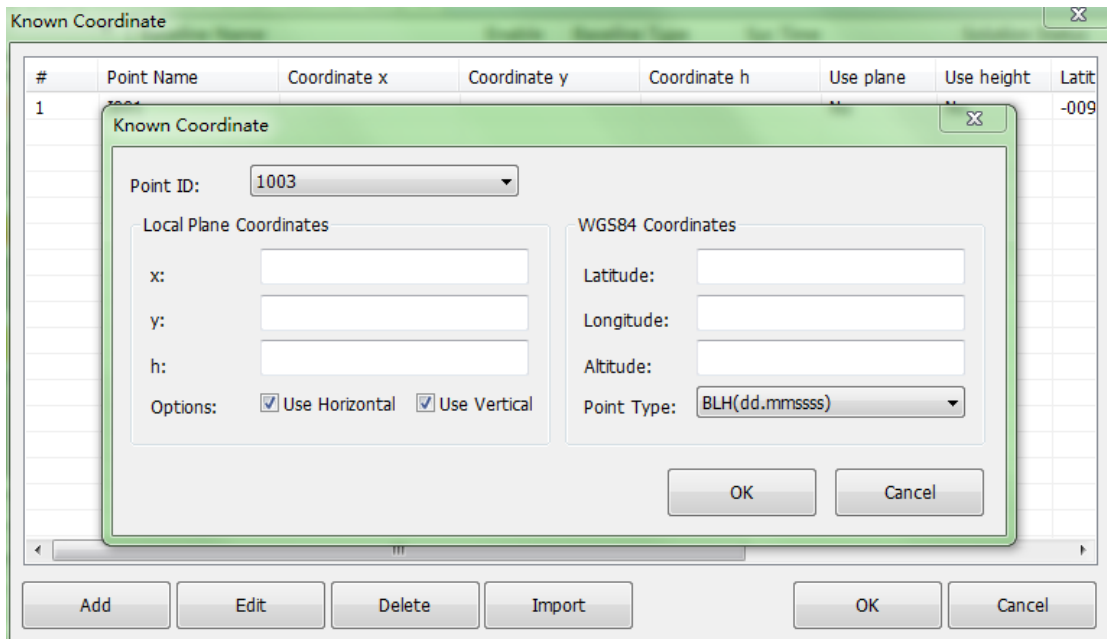

Figure 2-9
- b. Click [Import] - [Known Coordinates] as shown in Figure 2-9.